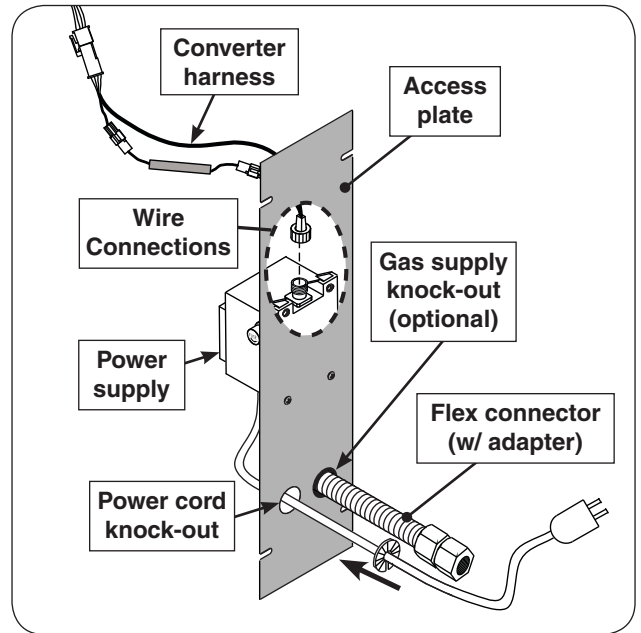

Fig. 17-1 Access plate view & install orientation
A power supply is pre-mounted to the access plate. For ease of installation, disconnect the converter harness from the power supply. Locate the wires coming from the inside of the post to the power supply and carefully disconnect (see Fig. 17-1 and 17-2).
4. Install the bushing onto the power cord and slide the bushing up against the access plate knock-out hole and snap into place. See Fig. 17-1.
2. Remove the plastic grommet (attached to the flex connector) and insert it into the newly created opening. Then route the flex connector through the opening. See Fig. 17-1 and 17-2.